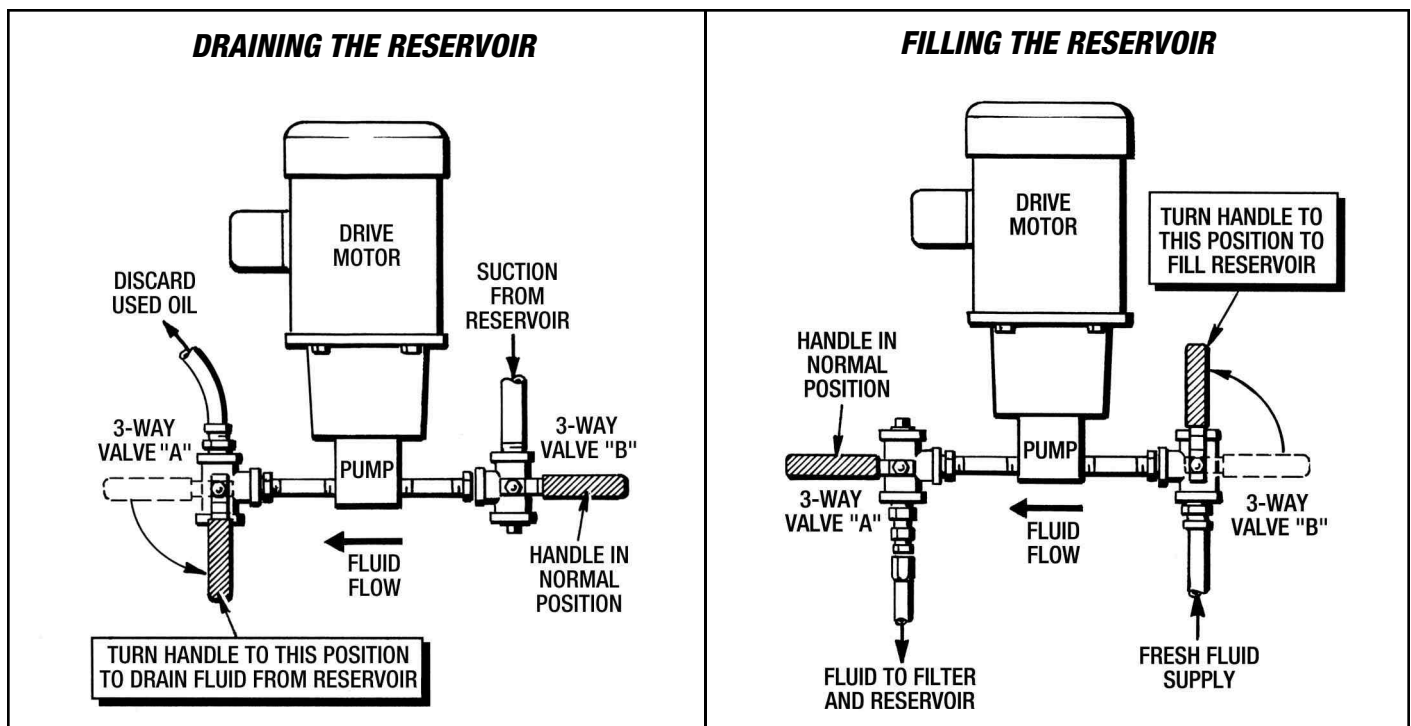

Figure 2.6 - Filling and Draining Reservoir With Kidney Filtration System
(See Figure 2.6)
3. Turn the handle on Valve "A" to the Drain Position as shown in Figure 2.6.
2. Turn the handle on Valve "B" to the Fill Position as shown on Figure 2.6.